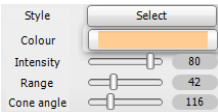

Fig. 249 – halogens edition pane
- to adjust the light parameters to your needs, use sliders and buttons in the section directly under the list of lights (Fig. 249);